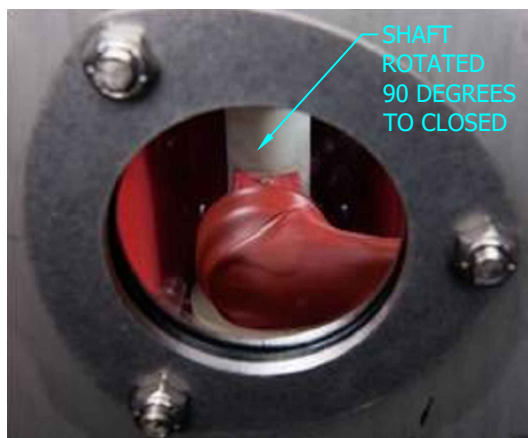

FIGURE 45
- ① FOR SINGLE SIDE PADMOUNT, VAULT MOUNT, AND SUBMERSIBLE, THE VIEW OF THE OPEN CONTACTS IS FROM THE TOP OF THE MECHANISM. SEE FIGURES 45 AND 46 BELOW.